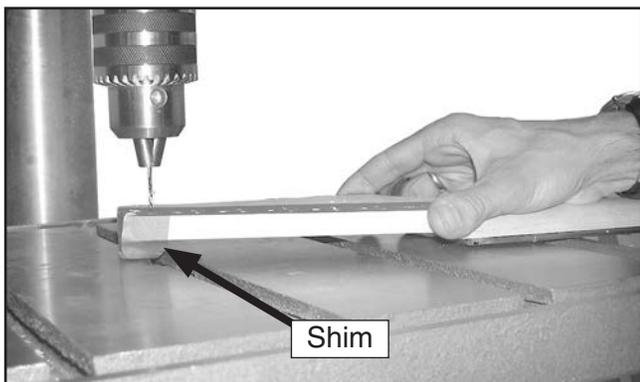

Figure 18. Peghead supported with shim.
6. Fasten a $\frac{7}{16}$ " thick wood shim with tape on the top side of the peghead near the tip (see **Figure 18**). This will help stabilize the neck during the next step.
7. Using a $\frac{1}{16}$ " drill bit, drill $\frac{3}{8}$ " deep holes into the back of the peghead (see **Figure 18**).